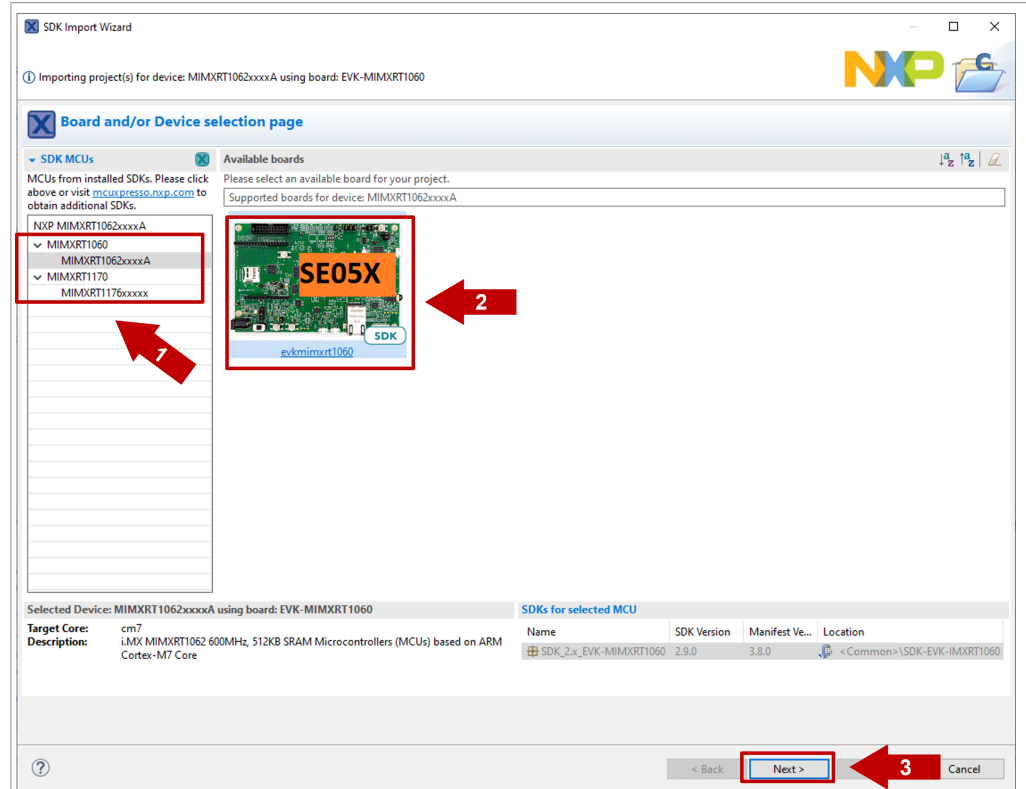

Figure 12. SDK import wizard
2. The SDK import wizard will open. (1) You should see on the left side the list of all the SDKs imported in MCUXpresso IDE. Select the one corresponding to the board you are using (either i.MX RT1060 or i.MX RT1170). You should now see a figure of an i.MX RT1060 board (or i.MX RT1170 board in case you selected the i.MX RT1170
SDK) with an orange label. (2) Select the board and then (3) click on the *Next* button as shown in Figure 12: